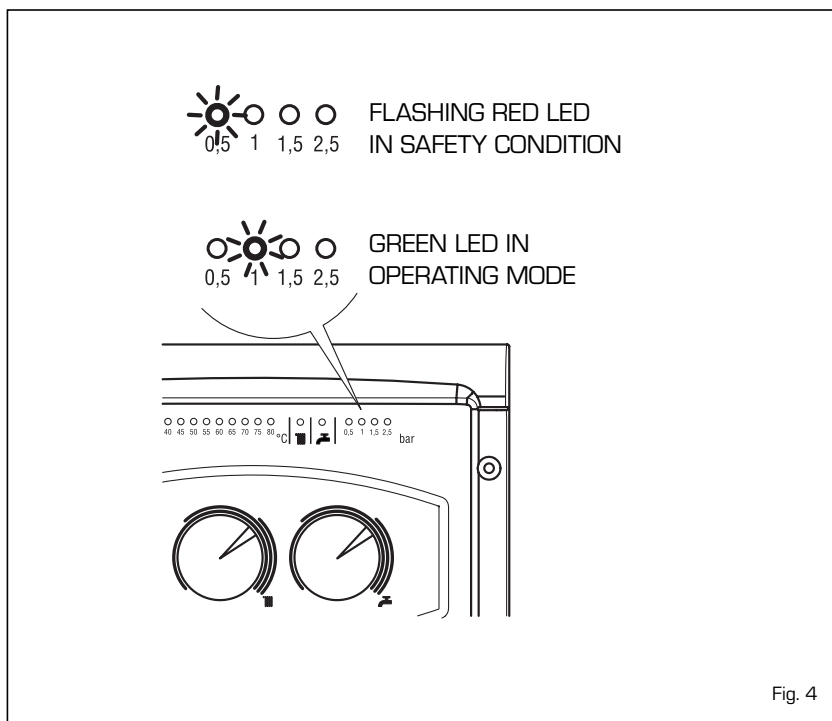

Fig. 4
- Insufficient water pressure (fig. 4)